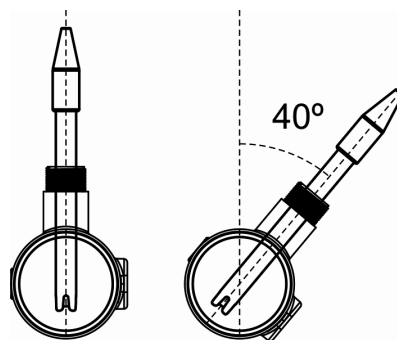

Fig. 13
4. **Always install the pH sensor vertically or with a maximum inclination of 40° (Fig. 13).**